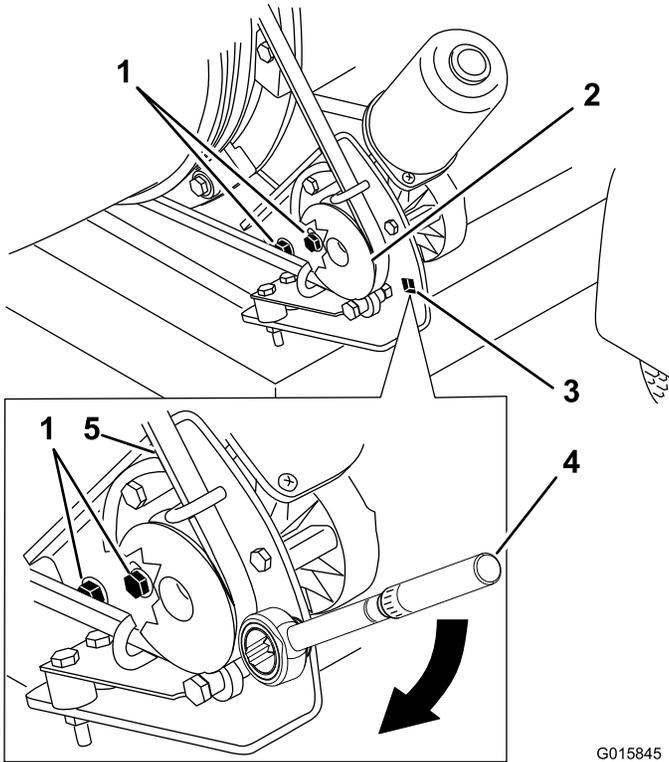

Figure 32
1. Loosen the bolts securing the pulley mounting bracket to the blower frame (Figure 32).
2. Position a torque wrench into the pulley mounting bracket (Figure 32).
3. Pivot the pulley mounting bracket away from the blower nozzle until the torque wrench reads 22.6 to 26.0 N·m (200 to 230 in-lb) (Figure 32).